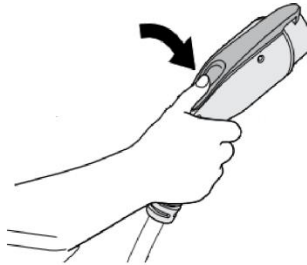

Fig. 6-9 Plug into EV socket
- As shown in Fig.6-9, plug the charging connector into the AC charging socket of the EV.